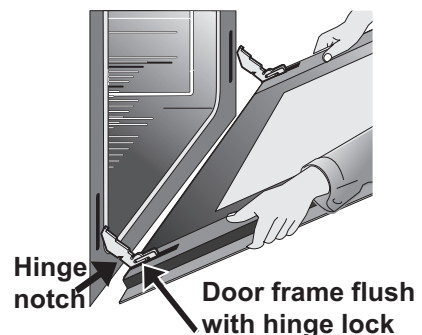

Figure 45: Replacement and location of hinge arm and roller pin
4. Pull the bottom of the door toward you while rotating the top of the door toward the appliance to completely disengage the hinge levers (Figure 45).
1. Firmly grasp both sides of oven door along the door sides. Do not use the oven door handle (Figure 45).
2. Hold the oven door at the same angle as the removal position. Carefully insert the hinge levers into the oven frame until you feel the hinge levers are seated into the hinge notches. The hinge arms must be fully seated into the hinge notches before the oven door can be fully opened. (Figure 45).